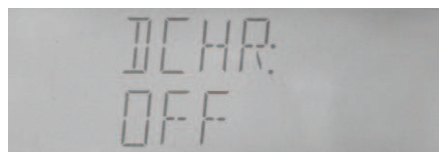

Figure 4-15 Discharging switch
- d) Select "DCHR" through **【◀】** or **【▶】** key, as shown in Figure4-15.